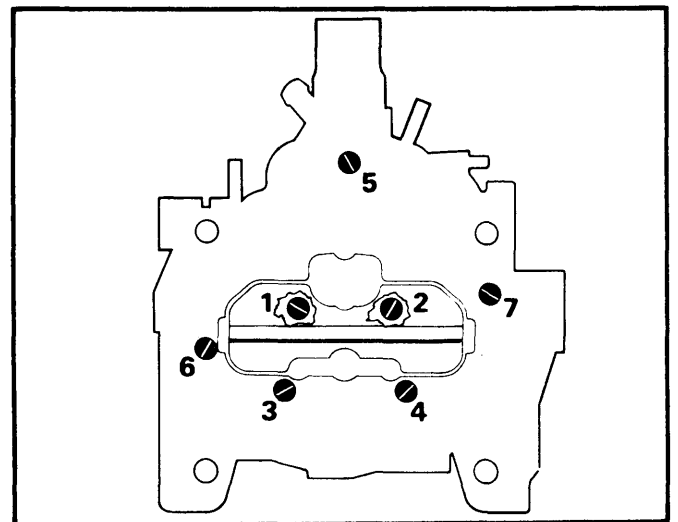

Fig. 9 Air Horn Screw Tightening Sequence
9) Install air horn screws and tighten all screws evenly, securely and in order shown in Fig. 9.